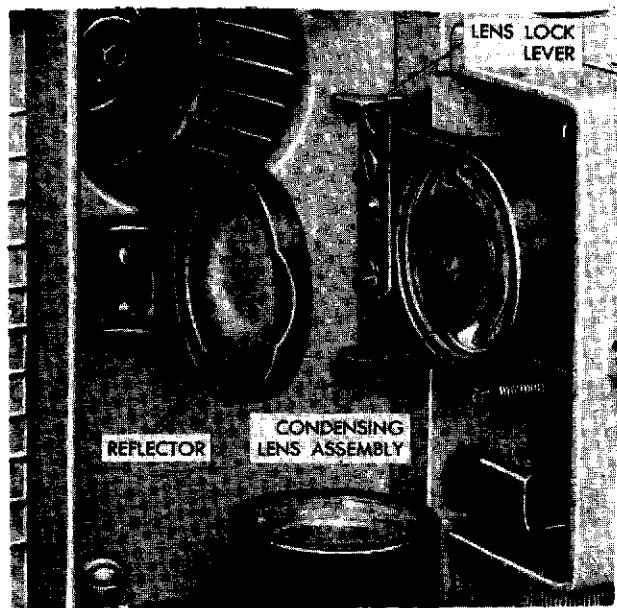

Figure 4-1. Reflector and Condensing Lens
**4-4. PROJECTION LAMP REFLECTOR.** The reflector (figure 4-1) is accessible for cleaning without removal from the projector. Open the lamphouse cover and remove dust or dirt from the reflector by using a camel's hair brush or by blowing air across its surface with a syringe bulb. Remove all stains, if present, with lens cleaning tissue. If necessary, use a drop or two of pure grain alcohol, to dissolve the oil, and wipe the reflector surface dry. Avoid leaving fingerprints.
**4-5. CONDENSING LENS ASSEMBLY.** The condensing lens assembly must be removed from the projector for cleaning. Open the lamphouse cover and remove the projection lamp by pressing the lamp well downward, turning it 90 degrees in a counterclockwise direction as far as it will go, and lifting the lamp free of its socket. Place the thumb of the left hand on top of the condensing lens lock lever (figure 4-1) and